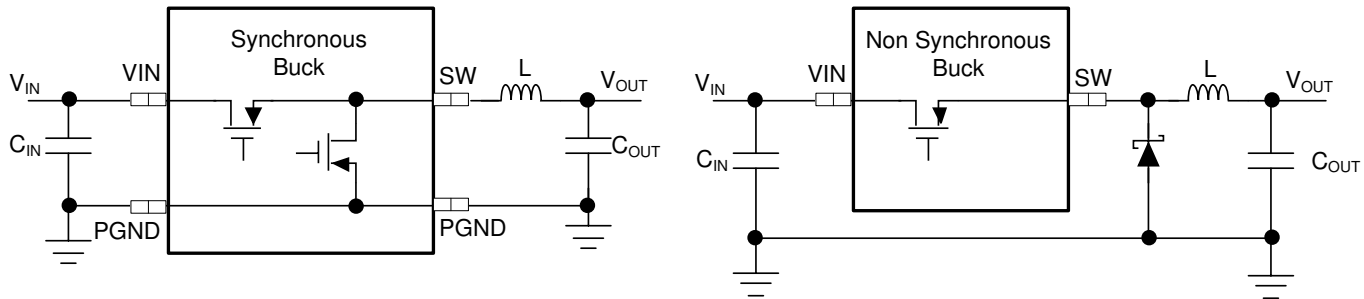

图 7-1. Simplified Synchronous vs Non-synchronous Buck Converters
The TPS7H4010-SEP is a synchronous buck converter with both power MOSFETs integrated in the device. 图 7-1 shows a simplified schematic for synchronous and non-synchronous buck converters. The synchronous buck integrates both high-side (HS) and low-side (LS) power MOSFETs. The non-synchronous buck integrates HS MOSFET and works with a discrete power diode as LS rectifier.